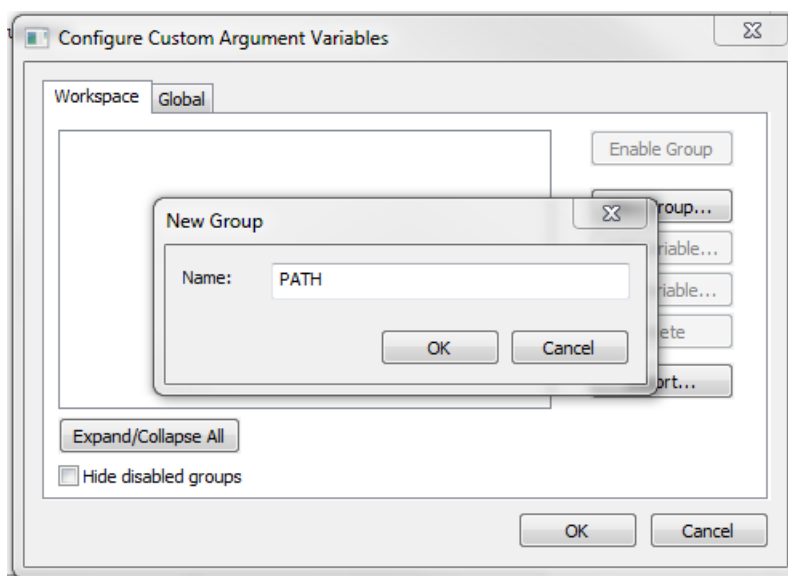

Figure 1-30. New Group
2. Click the New Group button, and another dialog appears. In this dialog, type the name of the group `PATH`, and click OK. See Figure 1-30.